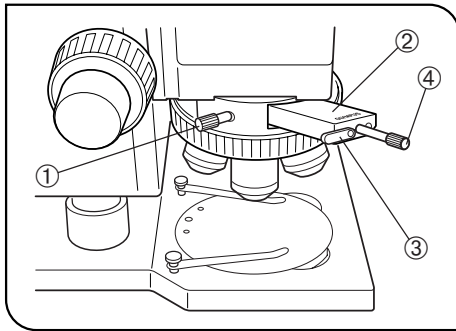

Fig. 18
(Fig. 18)
1. Adjust the background contrast by turning the prism movement knob ④ on the DIC slider as described below. (Fig. 18)